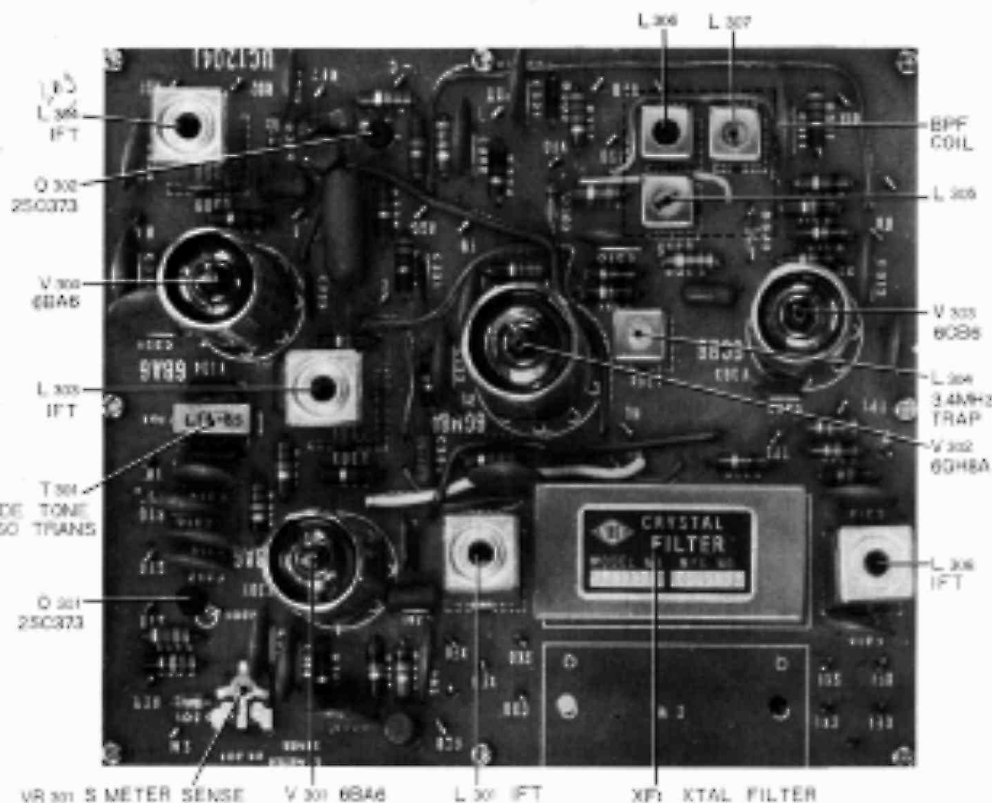

Fig. 22 IF Block
(2) IF stage (UC1204J) Refer to Fig. 22.